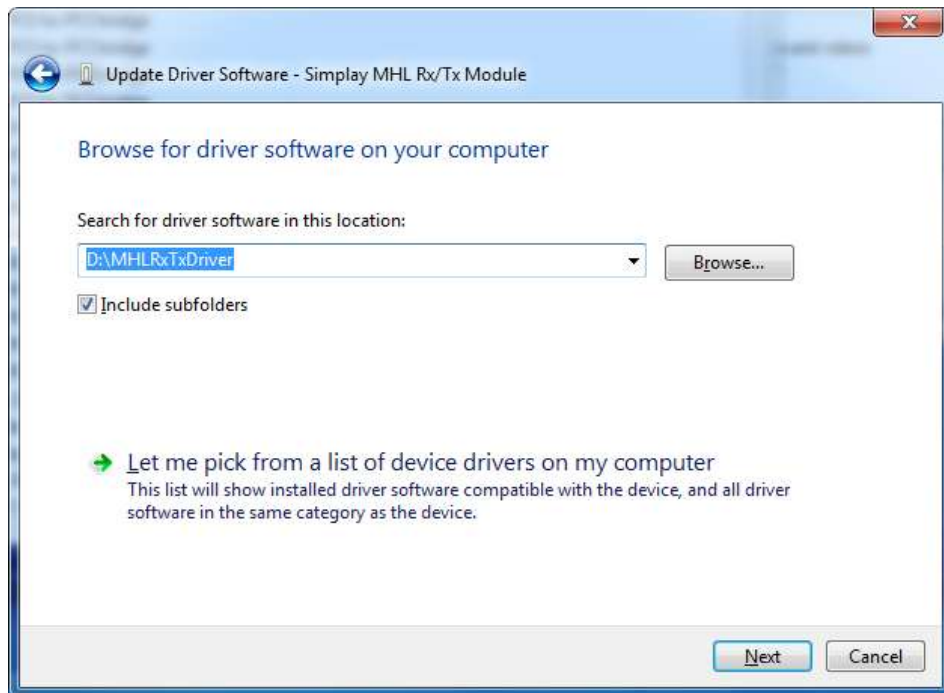

Figure 2.4. Driver Upgrade Dialog (2)
4. From the following dialog (Figure 2.4), click the “Browse...” button. Select the folder which contains the driver. Click the “Next” button to continue.